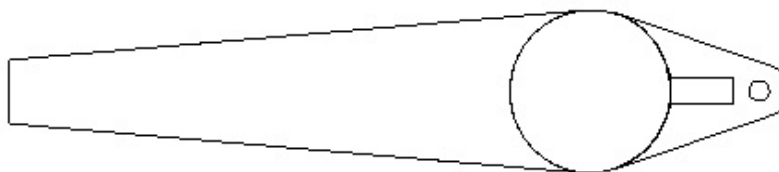

Figure 17 Lever body
35. Click **OK**  to mirror the cut to the other side as shown in Figure 17.